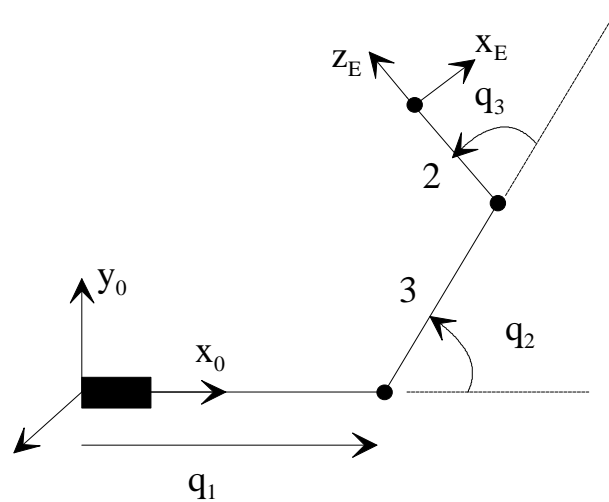

Fig. 2
Q.2. Fig. 2 shows a three-DOF robot that operates in the x-y plane which is vertical. The gravitational force is acting in the negative y_0 direction. The first joint is translational and along x_0 . The second and third joints are rotational, and their joint axes of motion are parallel to z_0 . The 2nd and 3rd links have lengths of 3 and 2 respectively. The three joint coordinates (q_1, q_2, q_3) have zero positions and positive motion directions as indicated in the figure.